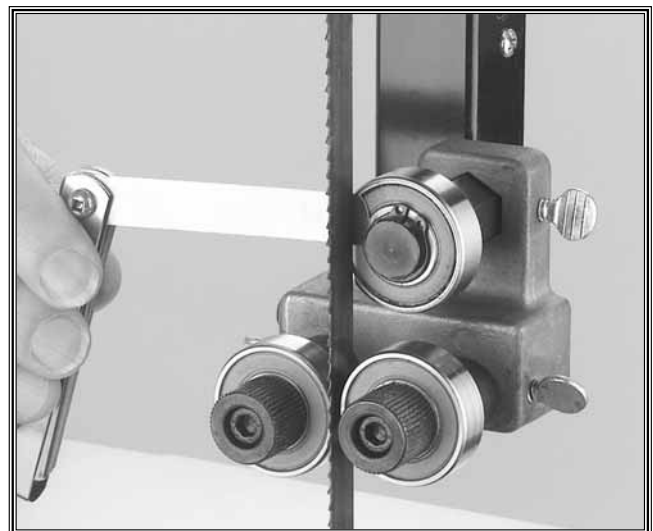

Figure 19. Setting support bearing clearance.
7. Use a feeler gauge and set the support bearings to a gap of 0.016" between the bearing and blade. See **Figure 19**.